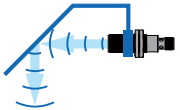

Figure 7 - Applying Reflector
- When measuring the liquid level in the container, if the sensor cannot be installed vertically downward due to the installation conditions or the medium vapor temperature is high, the sensor can be installed from the side, and through the smooth surface at an angle of 45° to the emitter surface, the reflector will Ultrasonic waves are guided vertically downward (Figure 7).